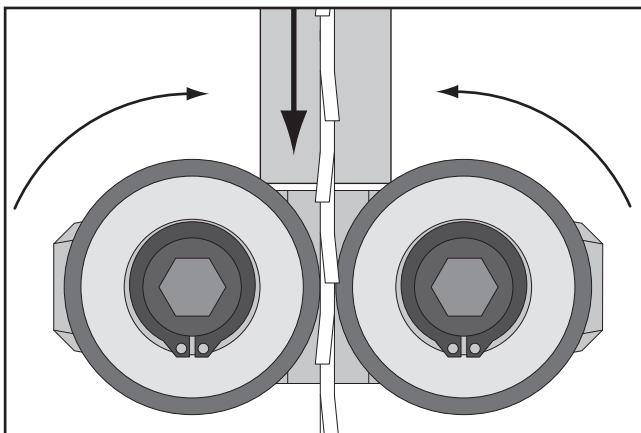

Figure 27. Blade guide bearings against both sides of blade.
7. With a hex wrench, rotate cap screws in center portion of blade guides while slowing rotating blade wheel. Adjust till bearing is engaged by blade, back off adjustment till the bearing stops moving as the blade passes (see **Figure 27**).